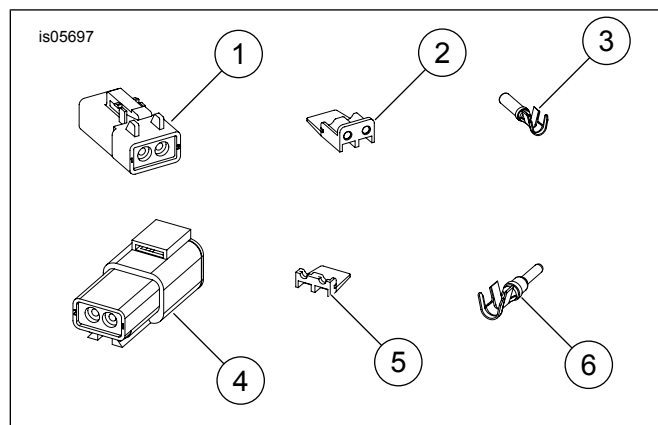

Figure 7. Service Parts: Voltage Regulator Connector Kit
See Figure 7 and Table 1.
1. See Figure 7. Install socket terminals (3), locking wedge (2) and socket housing (1) on the engine harness with crimping tools (HD-38125-6 and HD-38125-7).
2. Install pin terminals (6), locking wedge (5) and pin housing (4) on the regulator harness with crimping tools.
3. Connect the voltage regulator connector [77] (1).